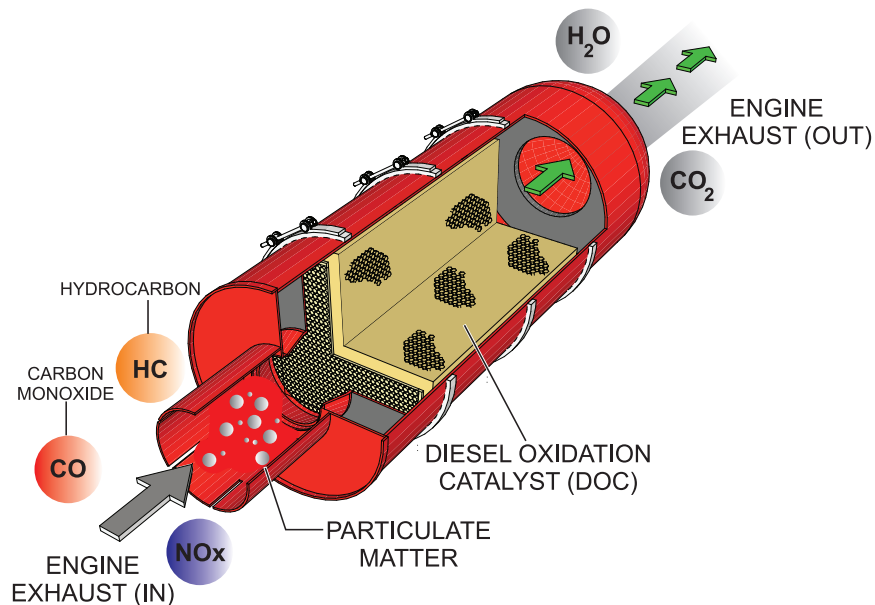

Figure 87. Diesel Oxidation Catalyst (DOC)
The DOC device (Figure 87) helps in filtering out large amounts of harmful **Nitrogen Oxides (NOx)** and **Particulate Matter (PM)** which are emitted by diesel engines. These exhaust emissions pose serious environmental and health risks. It is important to maintain and service the DOC emission safety device on a periodic basis.